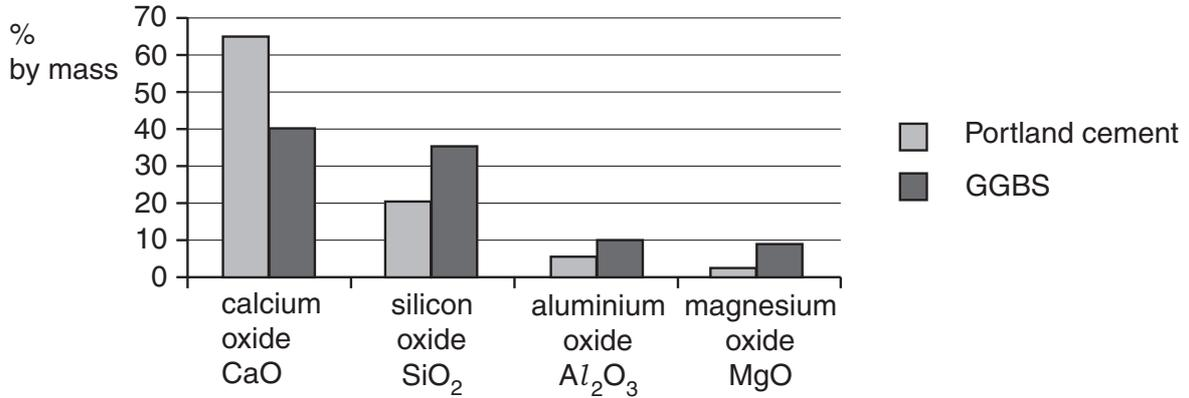

Fig. 1.2
- (j) A technician analysed samples of a batch of GGBS and ordinary Portland cement and presented the results as a bar chart, Fig. 1.2. For simplicity the component elements are shown as their oxides.